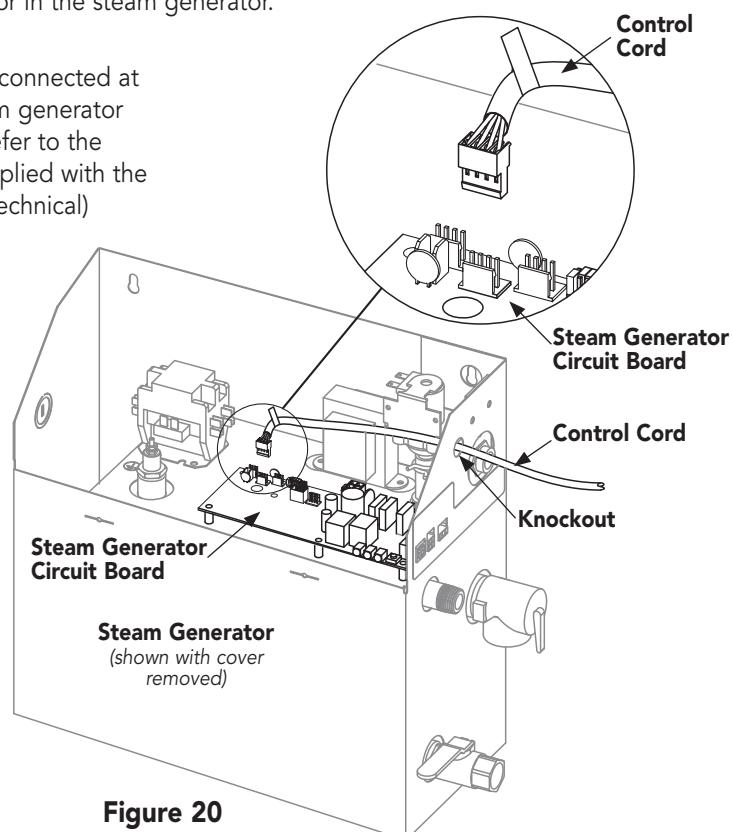

Figure 20
2. Connect the controller cord directly to the steam generator's circuit board, **Figure 20**.
2. Connect the accessories' controller cord directly to the steam generator's circuit board (Figure 20).